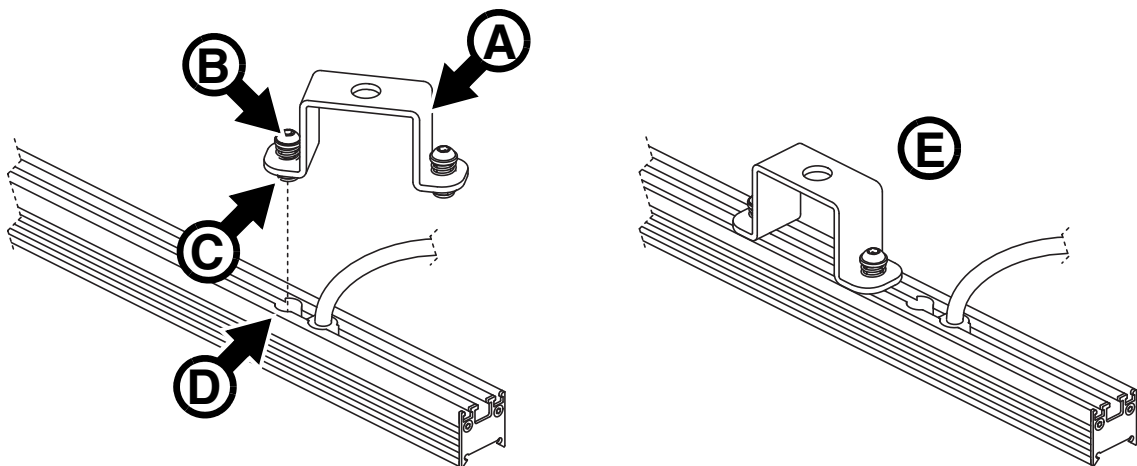

Figure 4: Installing a sliding bracket with spring-loaded fasteners
1. See Figure 4. Place the fixture with the LEDs facing downwards on a surface that will not scratch or damage the fixture. Push one of the spring-loaded mounting screws **B** on a bracket **A** down with your thumb so that its nut **C** sticks down from the bracket.